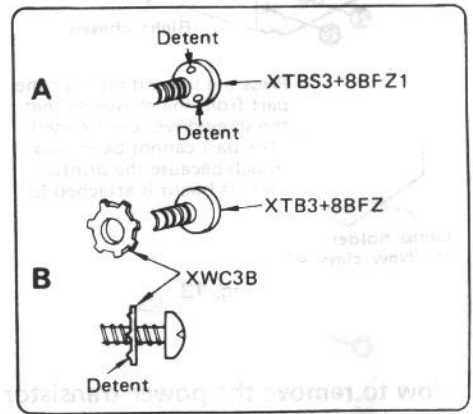

Fig. 20
Note: Setscrews ⑮ to ⑳ are screws with detents (Part No.: XTBS3+8BFZ1) as shown in Fig. 20-A in order to make the contact of electric circuit perfect. Take care not to mix up these screws with other screws. When substituting, use a 3 x 8mm tapping screw (Part No.: XTB3+8BFZ) and toothed lock washer (Part No.: XWC3B) as shown in Fig. 20-B. The teeth of the lock washer should be positioned on the chassis side.